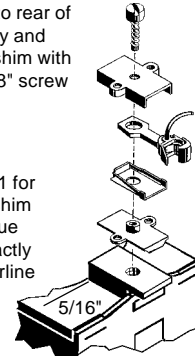

Fig.2
4. Glue shim in place on loco centerline as shown in Fig.2. The front of the shim should be 5/16" from rear end of the loco floor.